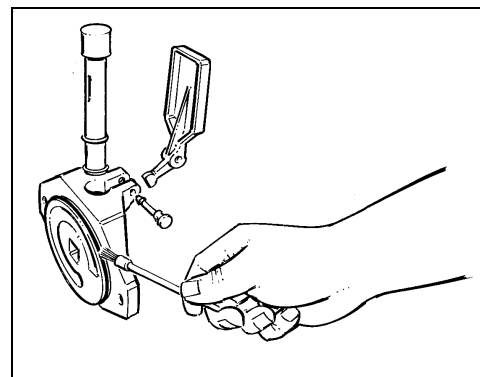

Fig. 30
- Carefully lubricate the sealing gasket of the front flange (fig. 30).